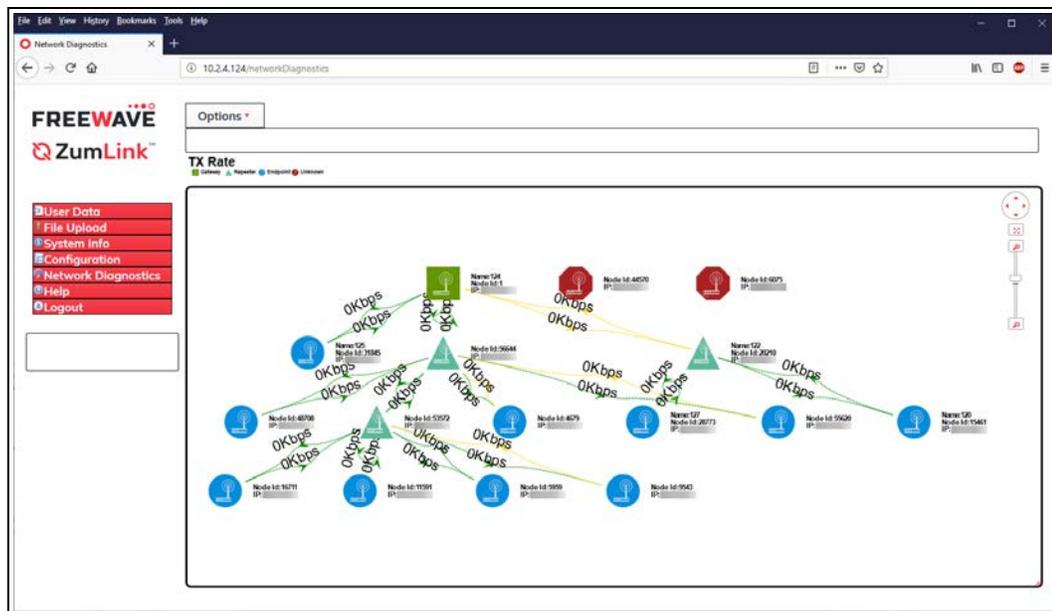

Figure 217: Network Diagnostics window - TX Rate
- Click the **Options** list box arrow and select the **Tx Rate** option to show the **Tx Rate** connections in the **Network Diagram**. Figure 217